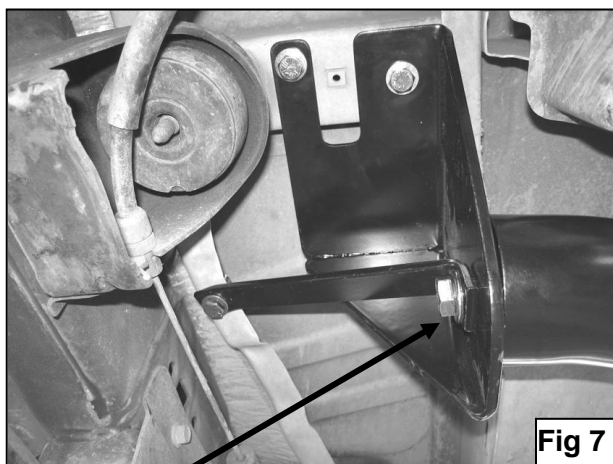

Fig 7
7. Attach driver Sidebar to front Support Bracket and front Mounting Bracket using the included (1) ½" x 2" Hex Head Bolt, (1) ½" Lock Washer, and (1) ½" Flat Washer (**Figure 7**). Do not tighten at this time.